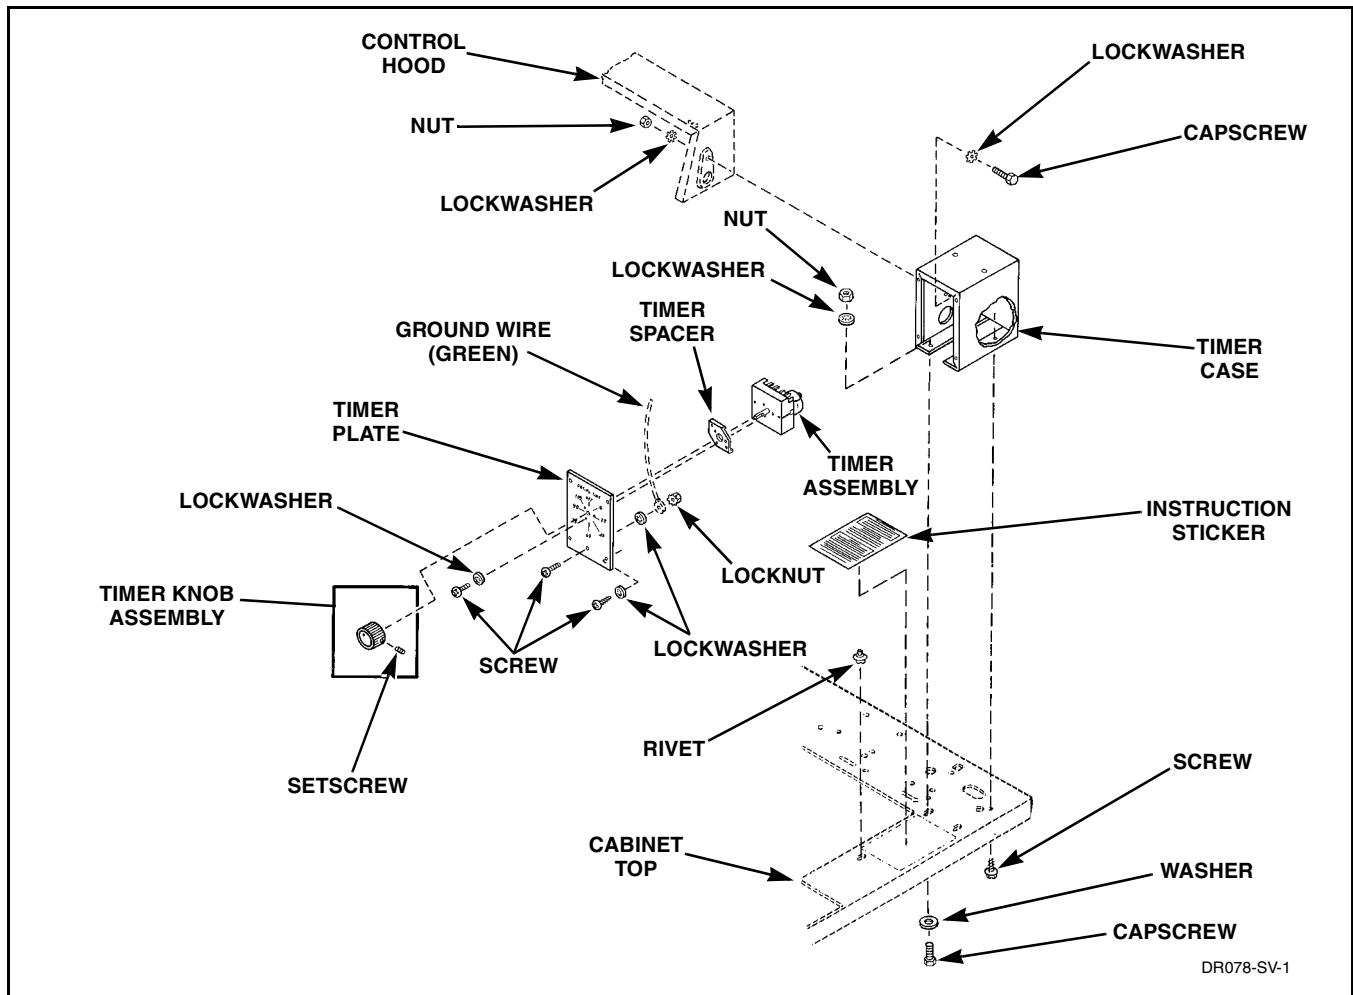

Figure 8
- (1) Refer to *Figure 8* for timer removal.
- (2) Loosen setscrew holding timer knob to timer shaft and remove knob.
- (3) Remove four screws and lockwasher holding timer and plate to timer case.
1. Disconnect wires from timer, *Figure 8*, except timer motor.
- d. **Non-metered models:** (Refer to *Figure 8*)
- (1) Remove four screws and lockwasher holding timer and plate to timer case.